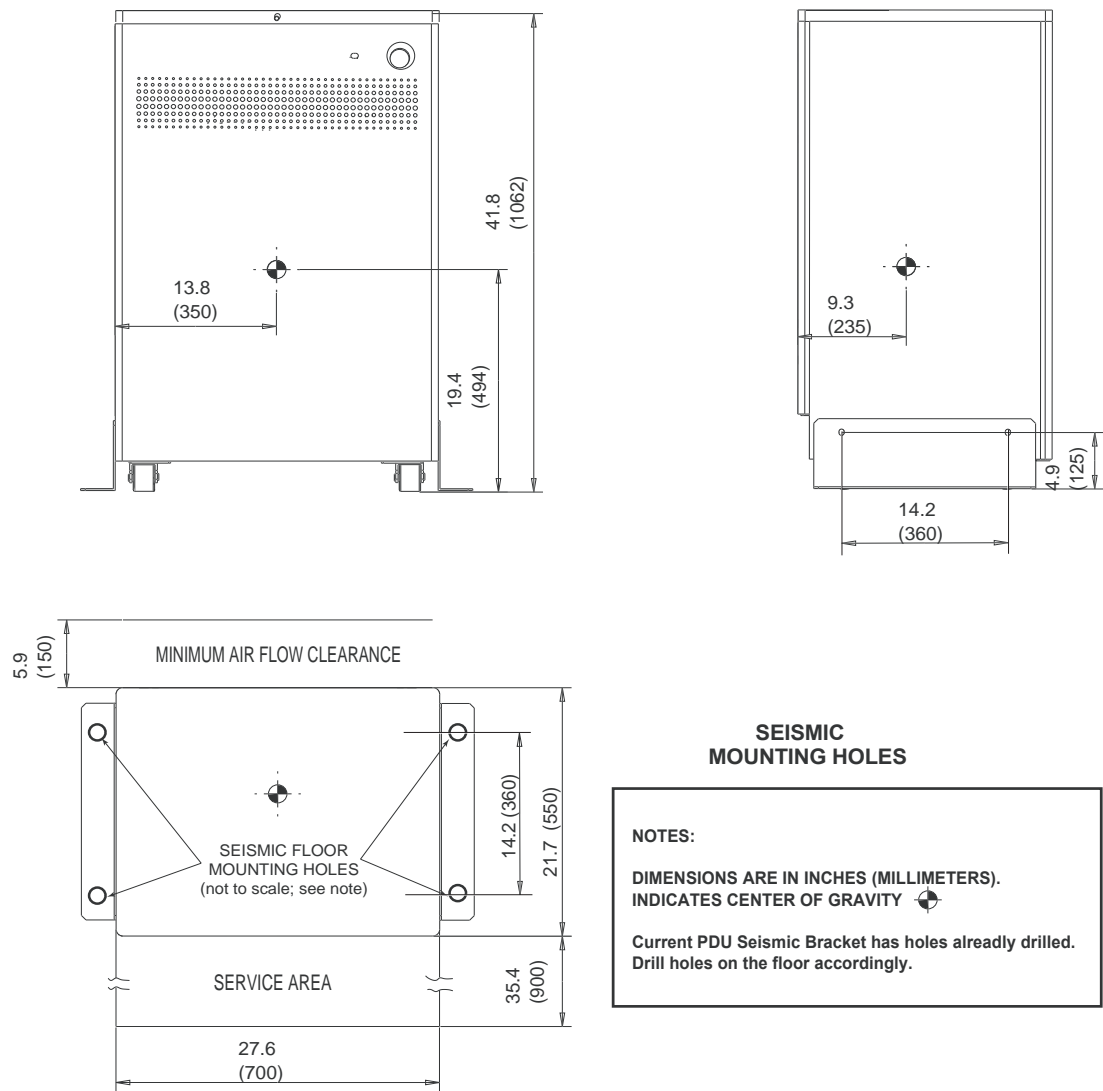

Figure 6-7 Power Distribution Unit (NGPDU)
- Power Distribution Unit: Figure 6-7